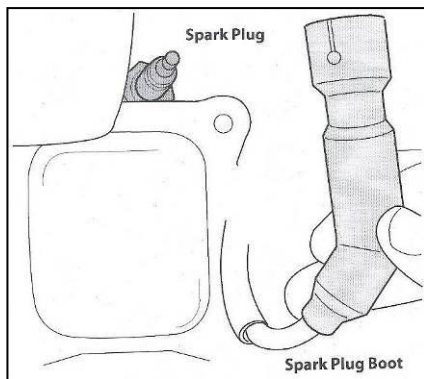

Figure 16
1. Remove the spark plug boot and use a spark plug wrench to remove the plug. See figure 16
4. Measure the plug gap with a feeler gauge. Correct as necessary by bending side electrode. The gap should be set to .02-.03 inches (0.60-0.80mm). See figure16
The augers are secured to the spiral shaft with two shear pins and cotter pins. If you hit a hard foreign object or ice jam, the snow thrower is designed so that the pins may shear. Refer to Figure 16